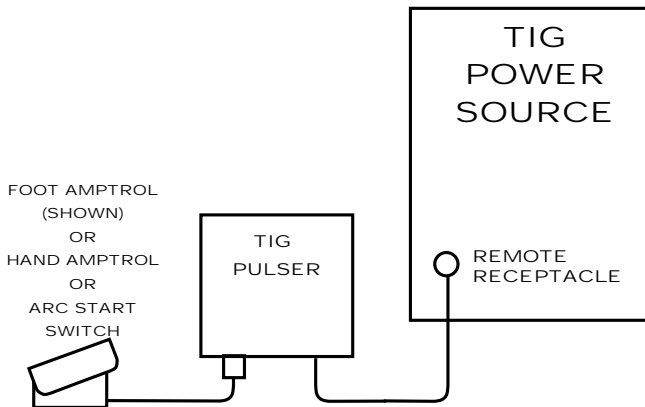

Figure A.2 Control Cable Connection.
Refer to Figure A.2.
2. Connect a foot Amptrol (shown), hand Amptrol or an Arc Start Switch to the TIG Pulser see Figure A.2 Control cable connection.